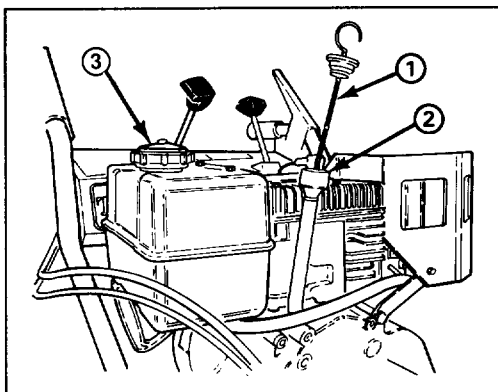

Figure 8
FILL CRANKCASE WITH OIL (Fig. 8)
3. Remove dipstick from crankcase (Fig. 8).
1. Clean area around the fuel tank cap (Fig. 8). Remove cap from fuel tank and fill tank to within 1/2" (13 mm) from the top with unleaded regular gasoline. Reinstall fuel tank cap. Fuel tank capacity is 4 quarts.